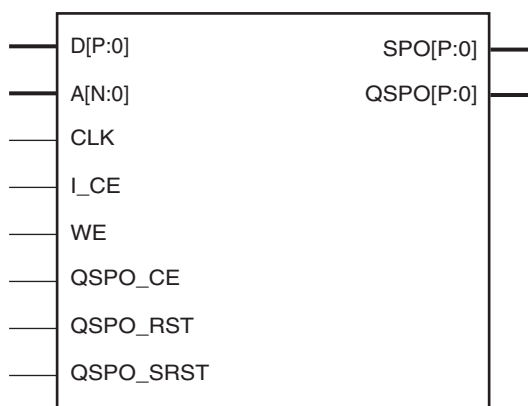
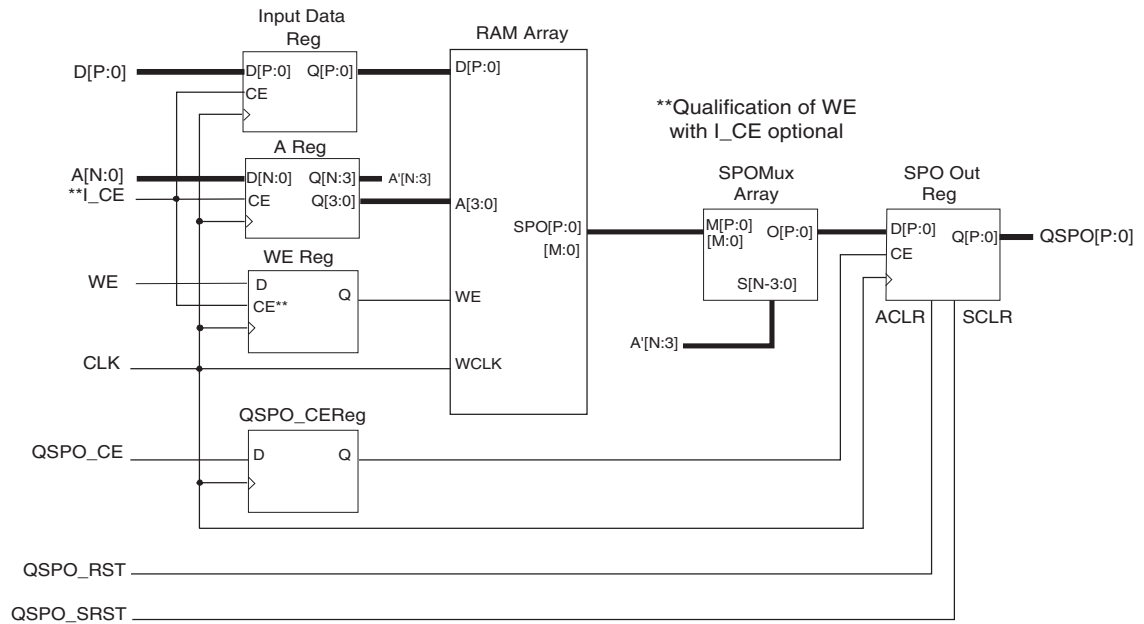

Figure 3: Distributed Single-Port RAM Schematic Symbol
Figure 4: Distributed Single-Port RAM Module Schematic
The distributed single-port RAM uses the single-port distributed RAM resource of the LUT. Writes to the Single-Port RAM are synchronous to the clock (CLK). However, read operations can be asynchronous (SPO) or synchronous to the clock (QSP0). Figure 3 illustrates the distributed single-port RAM schematic symbol, and Figure 4 illustrates its internal implementation. If a pipeline register is added to a registered core (not illustrated), the additional register is re-timed into the SPO MUX array. For timing information about the distributed single-port RAM, see the platform-specific user guide for the target FPGA architecture.
- **Single-Port RAM.** **Figure 4** illustrates a schematic of the structure of the single-port RAM modules. The address and data registers are optional (controlled by the setting of the Input Options parameter). Output registering is also optional (controlled by the setting of the Output Options parameter). The resets and clock enables are optional. The clock CLK is always required because writes to the single-port RAM are synchronous to that clock.